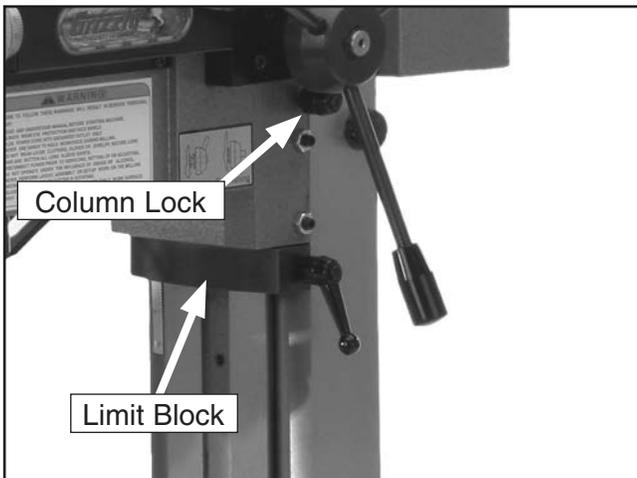

Figure 14. Limit block in place.
3. Loosen the lock handle and slide the limit block so it sits tight against the bottom of the head (see **Figure 14**).